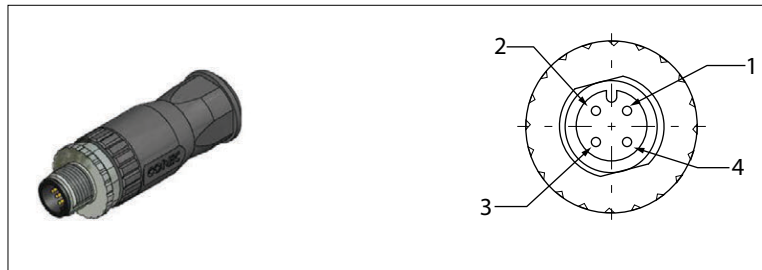

Figure 3. L/C Cable Connector
6. Connect the wires to the connector together as shown in Table 2. and Figure 3.